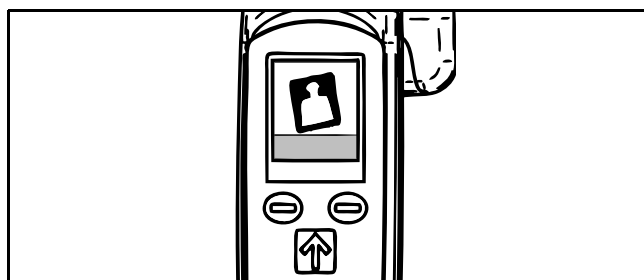

Fig. 60
**NOTE:** FOR EUROPEAN SCALES ONLY, If the display shows the larger “TILT” symbol alternating with the scale symbol, relocate the MAXI MOVE to a level position so that the scale can be operated correctly (see Fig. 60).